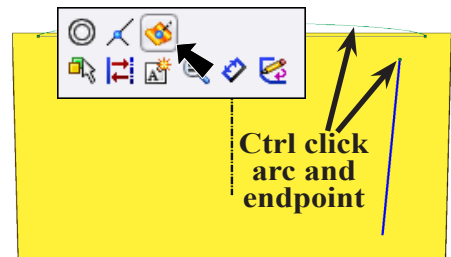

Fig. 35
Step 10. **Ctrl click top endpoint of line and arc in loft rear sketch**, **Fig. 35**. To Ctrl click, click endpoint, then hold down Ctrl key and arc.
Step 11. Click **Make Pierce**  on the Content menu, **Fig. 35**. Make Pierce adds a Pierce relation between line and rear sketch.